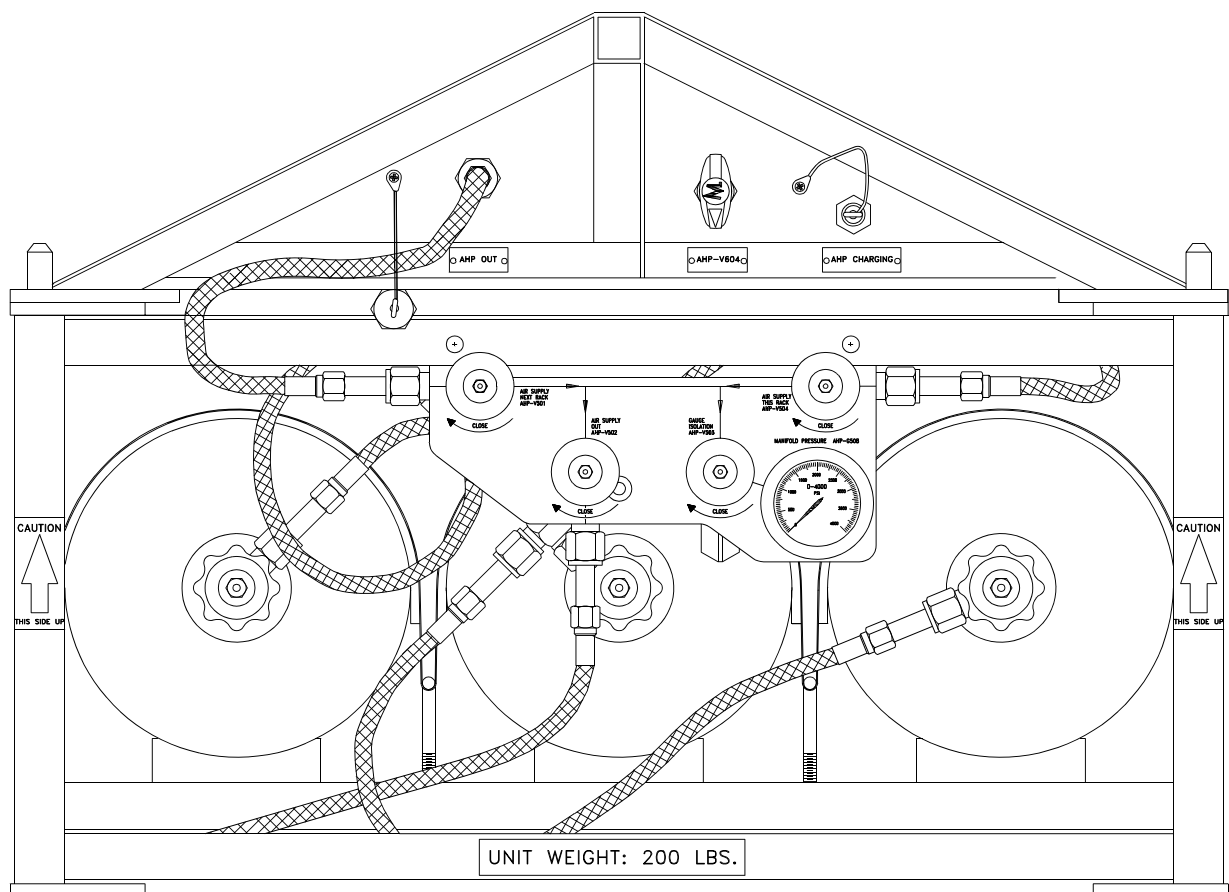

Figure 3-9. Secondary HP Air Supply with Roof Rack Assembly, Configuration 1
3.3.6 ROOF RACK ASSEMBLY. One roof rack assembly is supplied with the LWDS MK 3 Mod 0 for use with the primary or secondary HP air supply. During setup procedures, the roof rack assembly is placed on the secondary HP air supply in Configuration 1 (see Figure 3-9) or on the topmost in-line primary HP flask rack assembly in Configurations 2 and 3 with the AHP CHARGING port on the same side as the flask rack manifold. During start-up, the flask whip from the AIR SUPPLY NEXT RACK valve (AHP-V501) on the topmost in-line flask rack assembly is connected to the roof rack assembly's AHP OUT port. Opening AHP-V501 and roof rack valves AHP-V601 and AHP-V604 (see below) pressurizes the roof rack assembly.